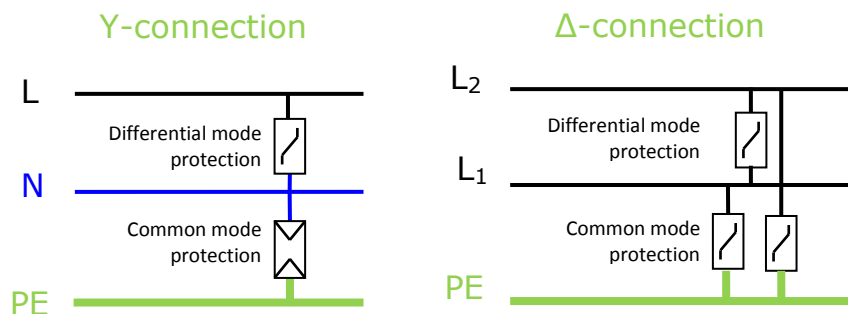

Figure 3-2 Protection modes
Surge currents and over-voltages can appear in two modes; *Differential mode* and *Common mode*. Differential mode appears between the feeding wires of the power system, whereas Common mode appears from feeding lines to ground. Surge currents are normally considered as common mode transients, i.e. the current is diverted to earth; however there will always be differential mode effects seen by the equipment. Eltek power supplies have high common mode impedance, thus the coordination between the type 2 SPD and the type 3 SPD internal in the power supply is easy to achieve. The differential mode impedance of a power supply is low, thus sufficient differential mode protection is important and coordination with the type 2 SPD is harder to achieve. Figure 3-2 shows how differential – and common mode protection can be implemented. The differential mode protection level of a SPD should be as close to the maximum operating voltage as possible, whereas the common mode withstand level must take into account ground faults, especially in isolated (IT) systems.